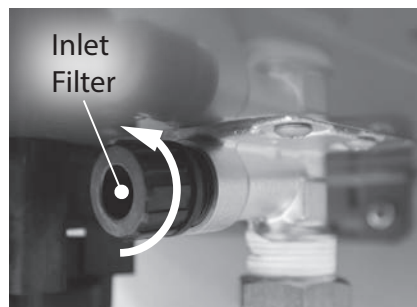

Figure 23 - Removing the inlet filter
- 7 Locate and remove the inlet filter as shown in Figure 23 to drain any residual water left in the system. Place a bucket or pan underneath inlet filter to collect water during removal.